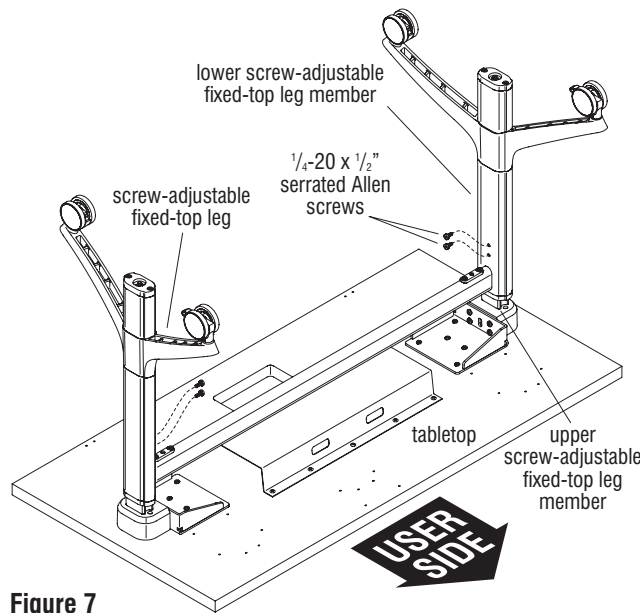

Figure 7
15. With the table upside down on a soft, protective surface, remove the two 1/4-20 x 1/2" serrated Allen screws from each lower screw-adjustable fixed-top leg member. Move the lower leg members up or down to the desired height (1" increments). Align the two adjustment holes on the lower member with the two holes on the upper leg member and secure to the desired height with the four previously removed 1/4-20 x 1/2" serrated Allen screws (Figures 7 & 8, Details F & G).